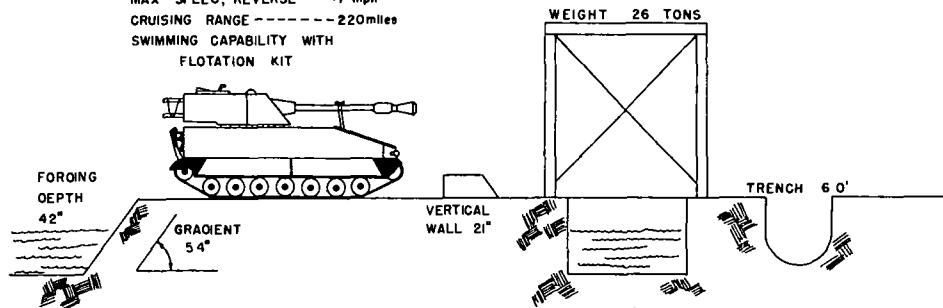

Figure 2. Performance characteristics.
a. Capabilities and limitations of the howitzer are shown in figure 2.